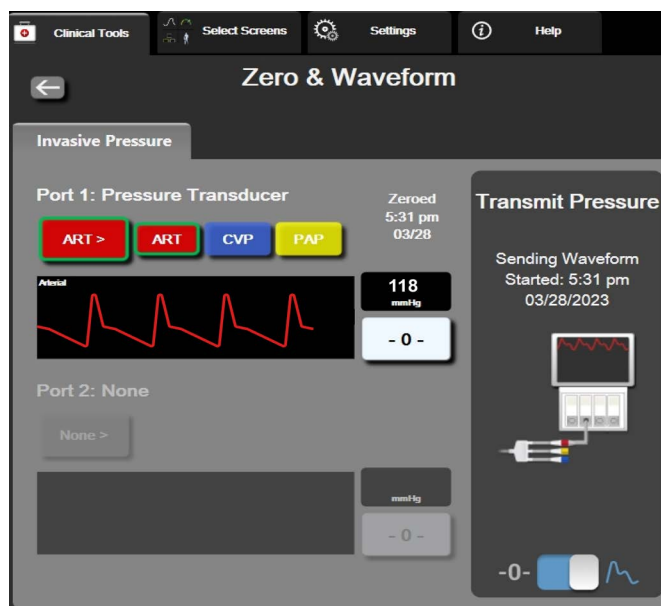

Figure 10-2 Zero & Waveform screen – Zero sensor and Pressure-Out
- 6 Toggle to the **Transmit Waveform** icon  to begin pressure signal output to the patient monitor. A **“Sending Waveform Started:”** message with the timestamp is displayed when the live waveform is being transmitted to the connected patient monitor. See figure 10-2 on page 190.